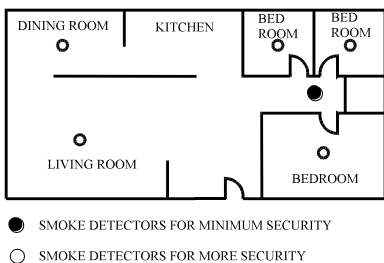

Figure 1: Installation locations for smoke / heat detectors in single- family apartments or homes with only one sleeping area
- Install a smoke / heat detector in the hallway outside of every separate sleeping area (*see Figure 1*). Two detectors are necessary in building with two areas with bedrooms.